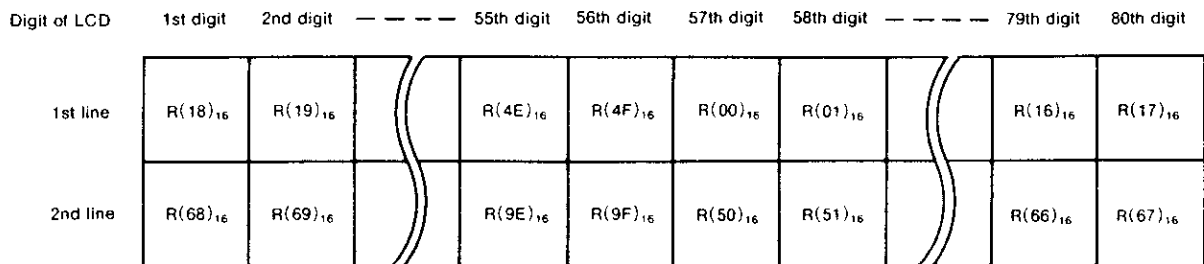

Fig.7 Example of display address
When the content of the display start address register is incremented, the result becomes (18)16, and the LCD becomes as shown in Fig. 7